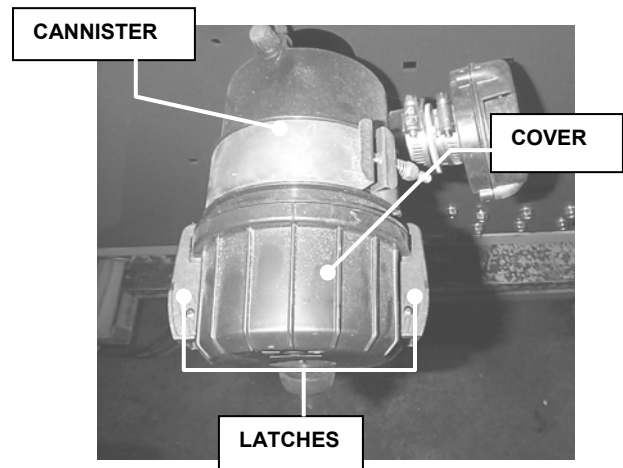

FIGURE 3.2
1. Locate engine air cleaner. Cover is retained with two latches. Unsnap both latches and remove cover. See Figure 3.2.